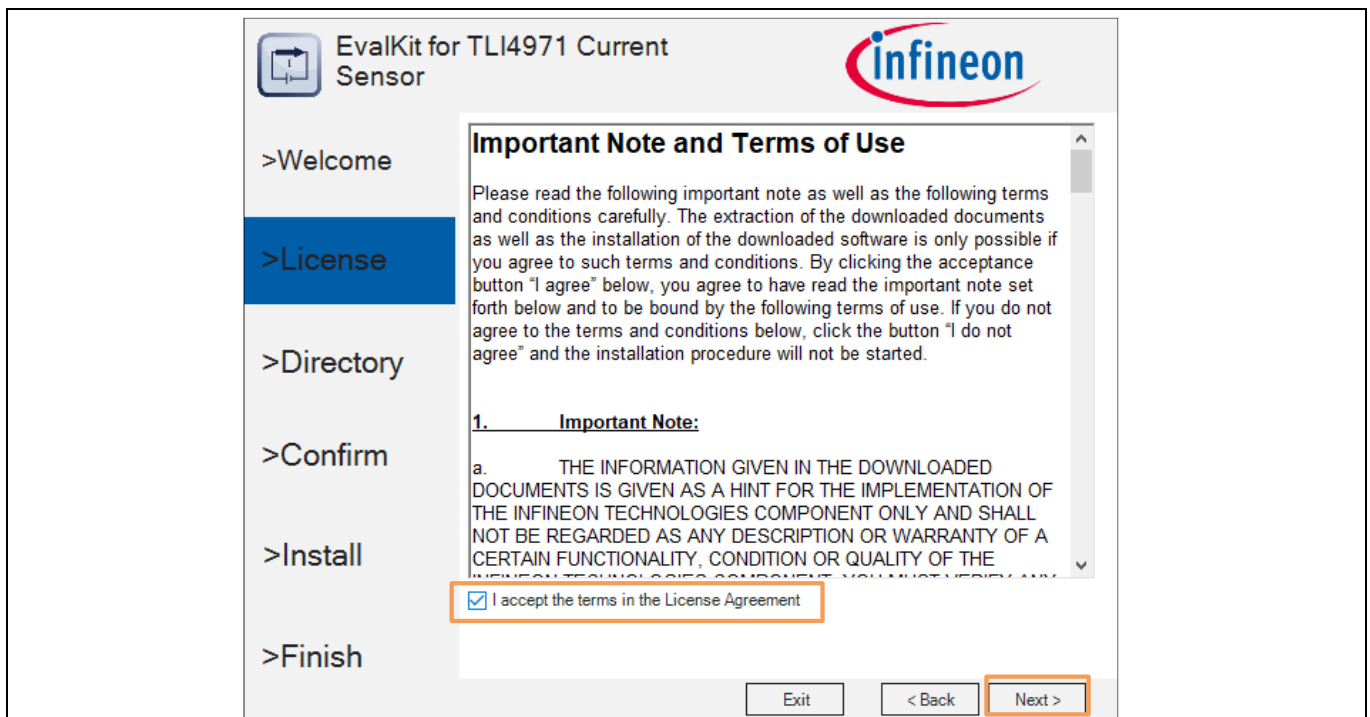

Figure 23 EvalKit Installer 1.0.2 – License Agreement
- Read through the license agreement carefully and continue the installation by selecting the check box of “I accept the terms in the license agreement”, see orange color box in Figure 23. If the license agreement is not accepted, then the installation will not continue to further steps. Click “Next” button to continue with the installation